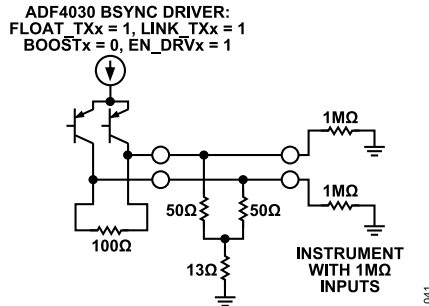

Figure 41. ADF4030 Driver to 1 MΩ Instrument Connection
- ▶ Instruments that have 50 Ω and 1 M Ω input impedance (Figure 40 and Figure 41)